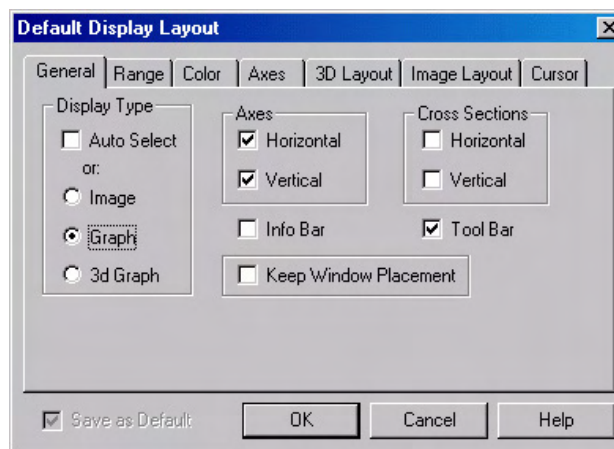

Figure 83. Display Layout dialog box
4. Select Layout on the Display menu. The Display Layout dialog box will open as shown in Figure 83.